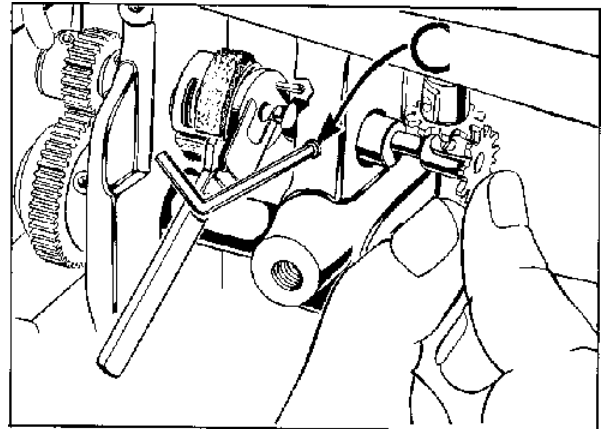

Fig. 25
5. Insert pump disc (F) into assembly tool No. 21227BY, with the stop pin on the spring side of tool, 180° from handle. Insert disc approximately half way into the spring and center in tool (Fig. 25).
7. A clearance cut on the edge of the metering cup, located between the dovetail and the long horizontal slot, has been provided for the pump disc tool and should be facing you (Fig. 25).
9. Press hook oil control shaft bushing (L) to the left until control shaft (D) is approximately 1/16 inch away from pump disc (F). Make sure the control shaft pivot pin (E) seats in the depression at the center of the pump disc. Tighten set screw (C, Fig. 25) and withdraw assembly tool. Be sure seal felt (J) has seated against the pump disc.